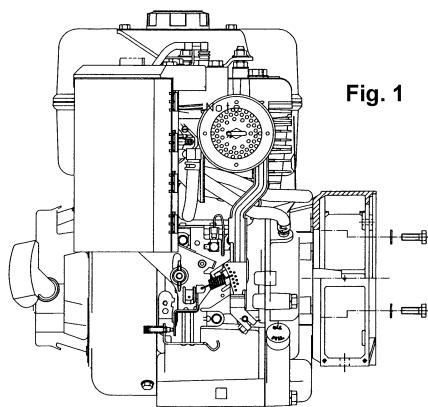

Fig. 1
-) mount the front cover on the motor, fixing it with the appropriate screws and applying a tightening torque of  $48\pm7\%$  Nm if using M10 screws or  $21\pm7\%$  Nm for M8 screws (figure 1)